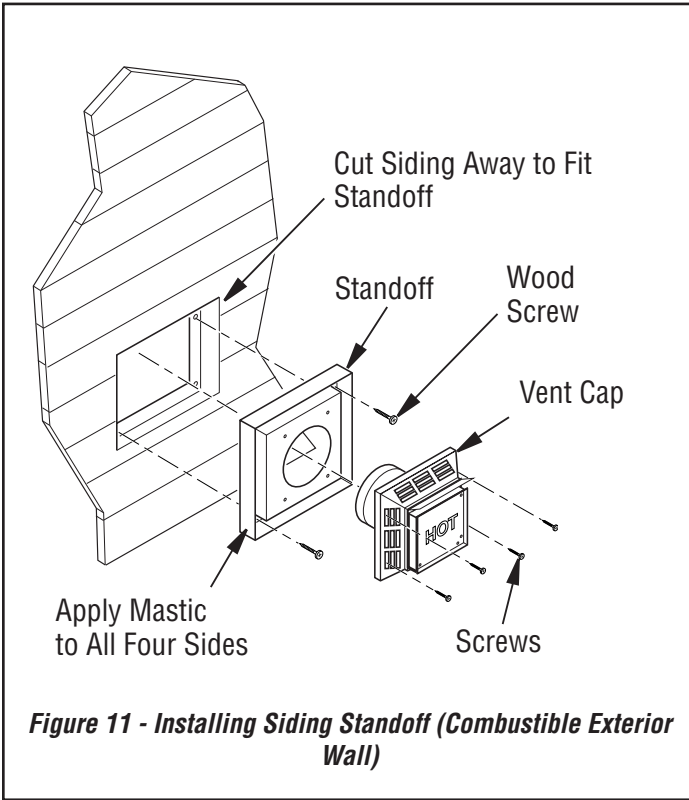

Figure 11 - Installing Siding Standoff (Combustible Exterior Wall)
1. Set fireplace in its desired location and determine the route your horizontal venting will take. Do not secure fireplace until all venting has been installed. Some installations require sliding fireplace in and out of position to make final venting connections. Figures 11 and 12 on page 21 show different configurations for venting with horizontal termination that will help you decide which application best suits your installation. Check to see if wall studs or roof rafters are in the path of your desired venting route. If they are, you may want to adjust location of fireplace.
Combustible Exterior Wall: For vinyl siding, stucco or wood exteriors, a siding standoff may be installed between vent cap and exterior wall. Siding standoff prevents excessive heat from damaging siding materials. Siding material must be cut to accommodate standoff. Bolt vent cap to standoff. Apply non-hardening mastic around outside edge of standoff. Position standoff/cap assembly in the center of 11" square hole and attach to exterior wall with provided wood screws (see **Figure 11**, page 21). Siding standoff must sit flush against exterior fascia material.